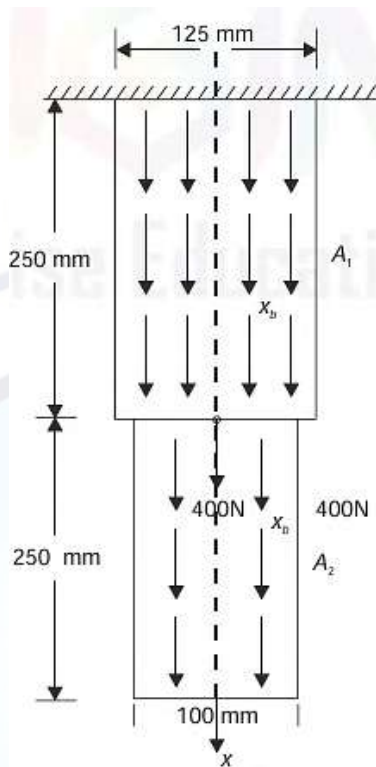

Figure 3:
5. a) Discuss the importance of assumptions and simplifications in mathematical modeling for finite element analysis. (3)
- b) The thin plate of uniform thickness 20 mm is as shown in Figure. 3. In addition to the self weight, the plate is subjected to a point load of 400 N at mid-depth. The Young's modulus is $E = 2 \times 10^5 \text{ N/mm}^2$ and the unit weight is $\rho = 0.8 \times 10^{-4} \text{ N/mm}^2$. Analyse the plate after modeling it with two elements and find the stresses in each element. (7)
6. a) Outline the general steps involved in the finite element method for solving engineering problems. (3)